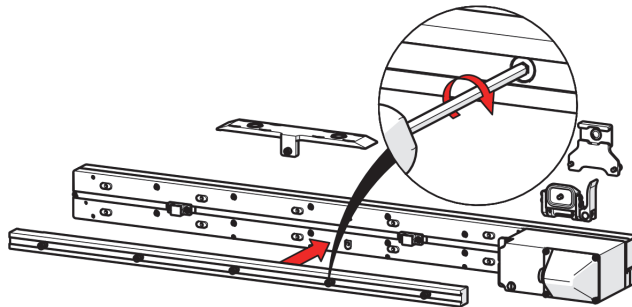

Figure 2-54 Attach mounting rail
12. Attach the raster arm's mounting rail below the cable management clips. Align and tighten all the screws on the mounting rail (see Figure 2-54 on page 83).